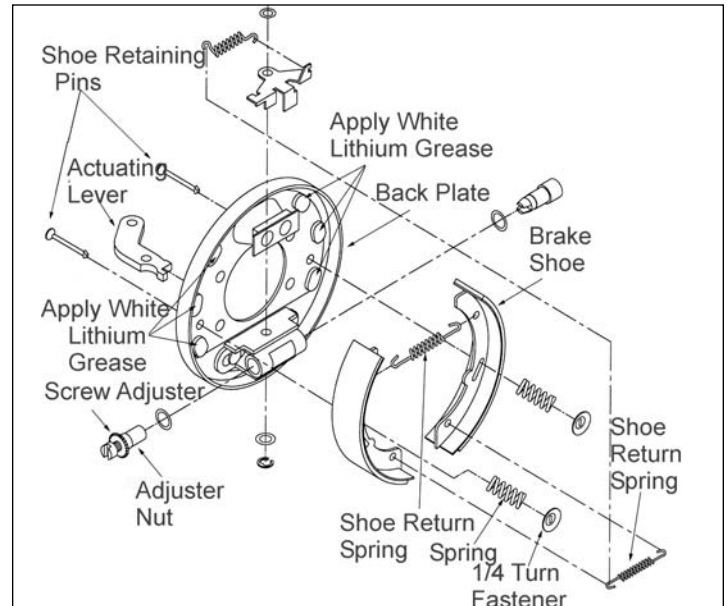

Figure 3 - Mechanical Drum Brake Components
3. Always, lay out brake shoes and other parts in order as removed. Reinstall in same order. Refer to Figure 3 for correct assembly.